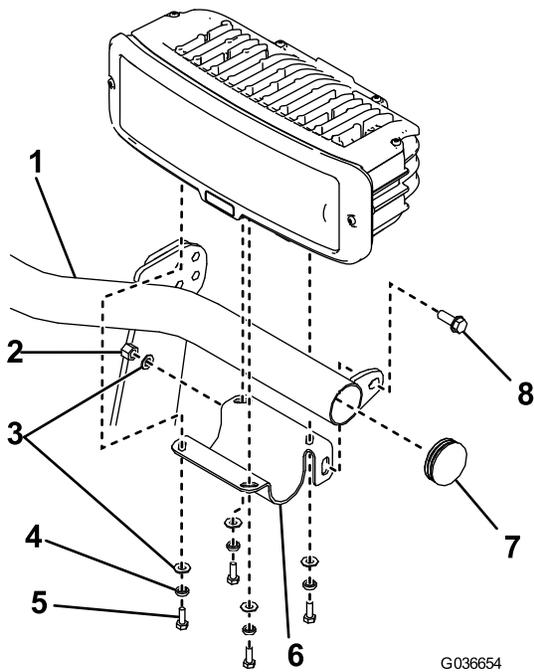

Figure 11
- Ensure that the end caps are installed on the ends of the light bar (Figure 11).
3. Secure the left headlight-bracket to the light bar using a flange-head bolt (3/8 x 1 inch), a flat washer, and a nylon locknut (Figure 11). Torque the bolts to 31 N·m (23 ft-lb).
4. Secure the left headlight to the headlight bracket using 4 bolts (1/4 inch), split lock-washers, and flat washers (Figure 11).